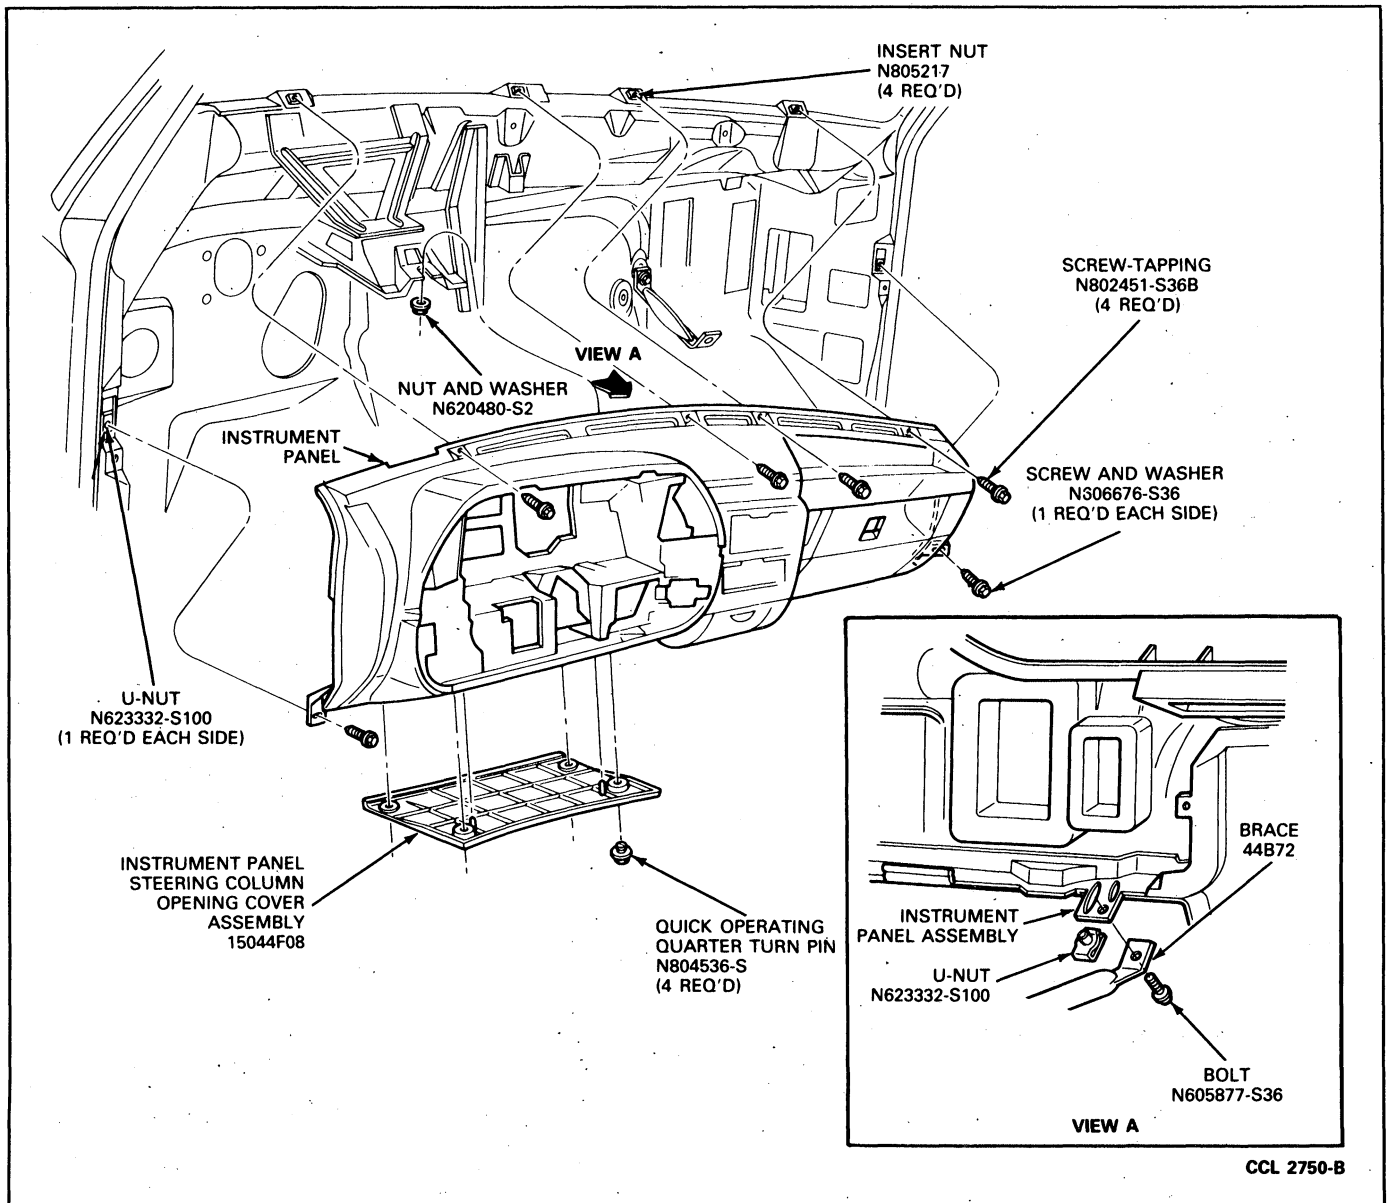

FIG. 5 Instrument Panel—F-150—F-350, F-Super Duty and Bronco
2. Working beneath instrument panel, remove nut and washer assembly attaching panel to brake and clutch pedal support (Fig. 5).
6. Disconnect connectors from main wiring harness (14401) to: (1) the blower ON-OFF switch and lever assembly, (2) to A/C control switch and pushbutton assembly, and (3) the control assembly illumination bulb.